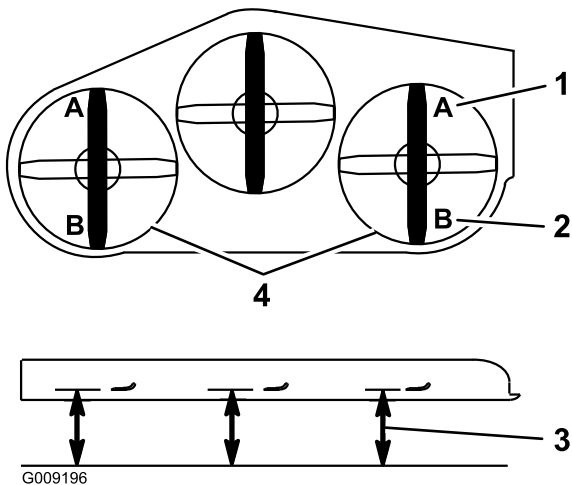

**Figure 89**
5. Push the deck lift pedal all the way forward and the deck will latch at the 14 cm (5-1/2 inch) transport position (Figure 89).